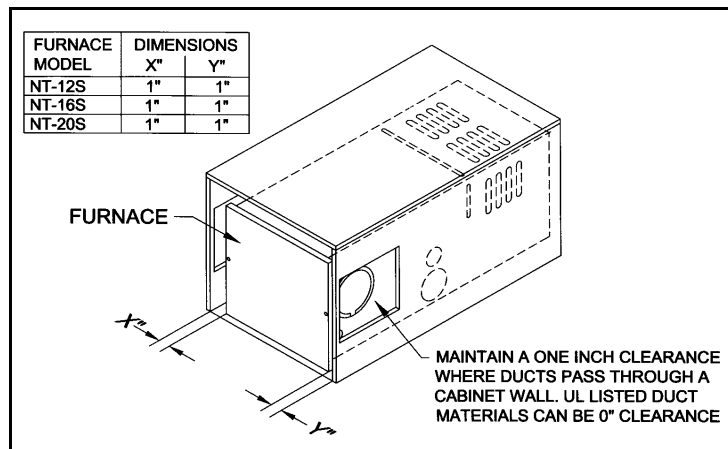

Figure 4A
**E.** Maintain a minimum of 1" clearance where ducts pass through any combustible construction; such as, coach cabinetry. (See Figure 4A). NOTE: UL listed duct materials can be 0" clearance.